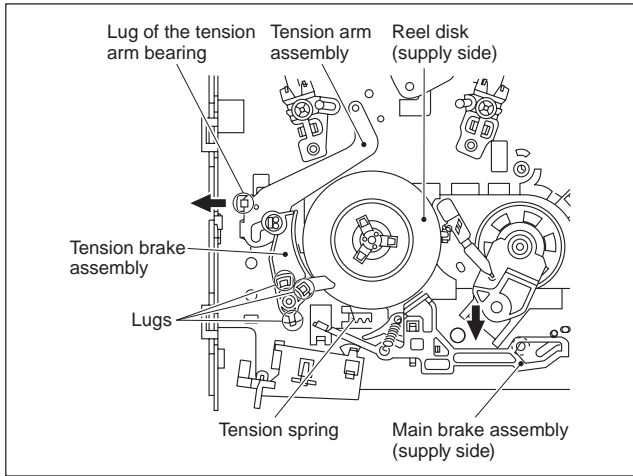

Fig.3-2-21a
- (1) Remove the three lugs of the tension brake assembly from the main deck and pull them off.
- (2) Remove the reel disk (supply side) by loosening in the arrow-indicated direction the main brake assembly (supply side).
- (3) Remove the tension spring on the back of the main deck. Then release the lug of the tension arm bearing in the arrow-indicated direction and draw out the tension arm assembly. (See Fig. 3-2-21a.)